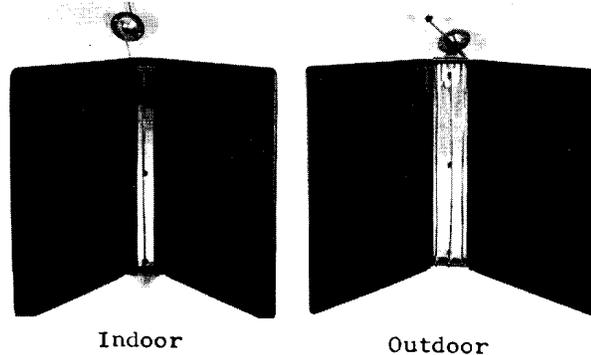

Figure 3
- (c) Insert the loose end of the cable thru the hole provided in the center of the directory binder, (rib). See Figure 3.